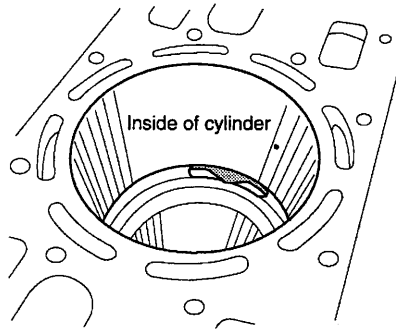

Fig. 33
- (1) Check if cylinder inside is worn or proper quantity of oil is applied. (Fig. 33)